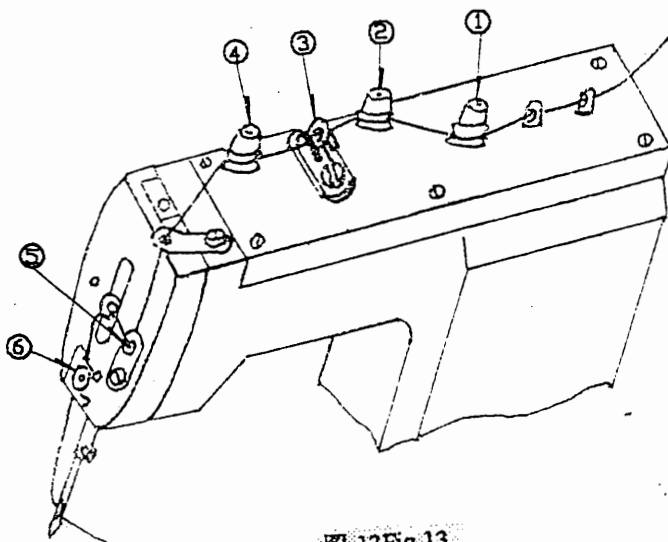

Fig. 13
6. Threading and thread tension discs (as shown in Fig.13).
Thread the machine in accordance with the diagram as shown in Fig.13. Threading improperly will affect the sewing quality directly.
6. 穿线方法和压线器压力的调节(见图 13)
当穿线错误时, 会直接影响缝纫质量。请按图 13 正确穿线。